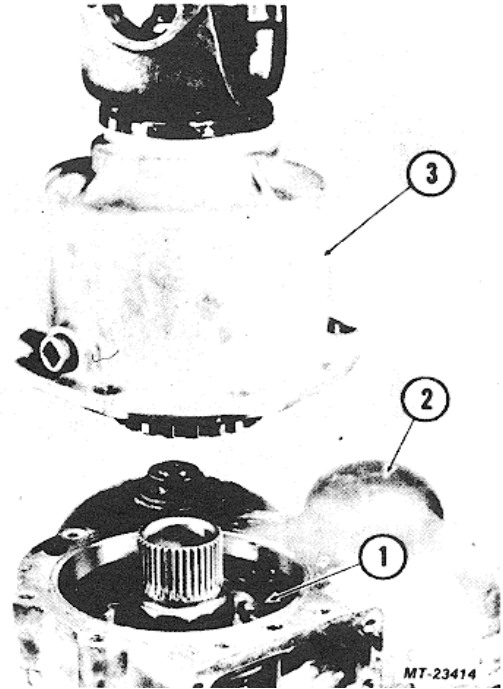

Fig. 47. Installing Inter-Axle Differential
3. Position inter-axle differential assembly on intermediate case (Fig. 47). Make sure teeth on rear of differential mesh with clutch shift collar previously installed.